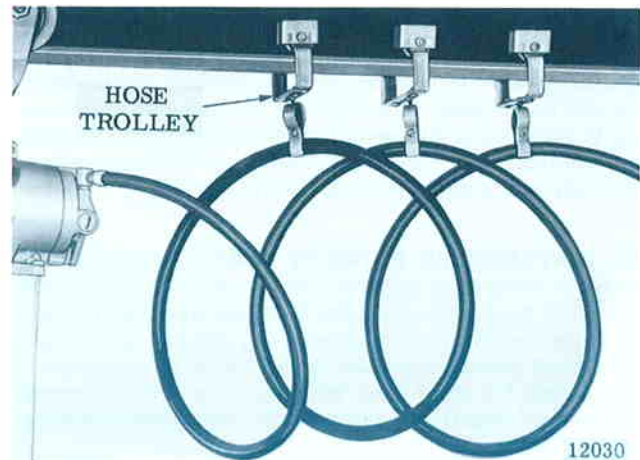

Figure 2-2. Air Hoist Supported by YALE Host Trolleys.
b. If hoist is suspended by trolley, provide sufficient hose to reach from air source to farthest point of trolley travel. YALE Hose Trolleys are recommended to keep hose up out of the way (see Figure 2-2).